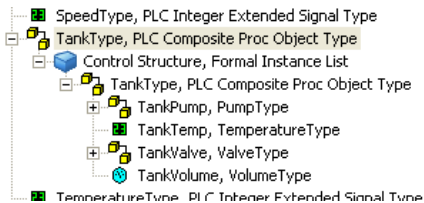

Figure 14. Added Pump and Valve Object Type Instances
- In the Process Object Configuration aspect, click  to add an instance of the *ValveType* object type. Name the instance *TankValve* as shown in Figure 14.